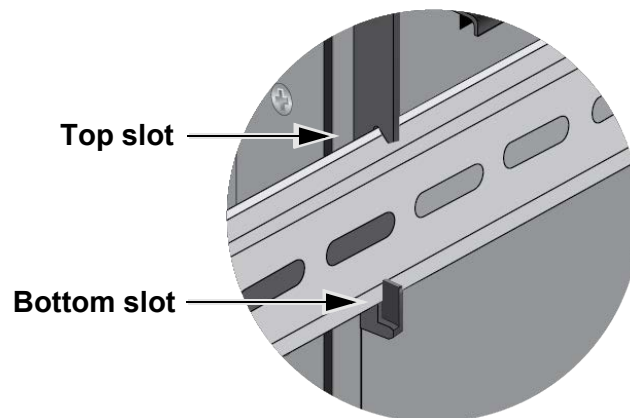

Figure 21. Verifying the DIN Rail Installation
- Visually inspect the bracket to verify that the DIN rail is now fitted into the top and bottom slots of the bracket, on both the left and right sides. Refer to Figure 21.